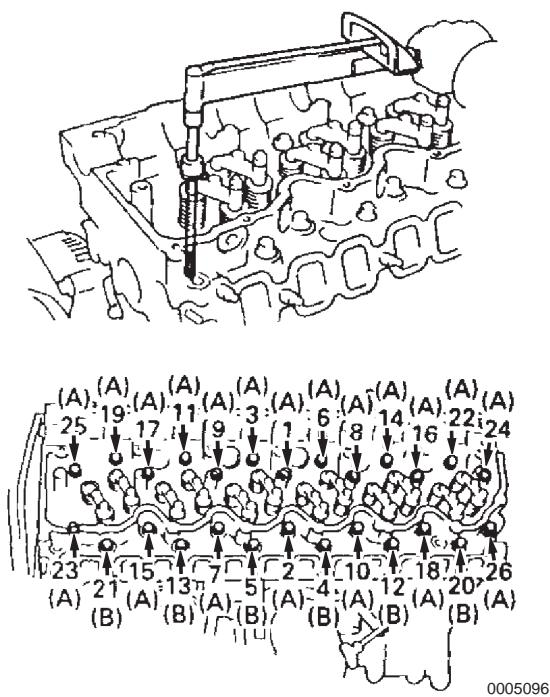

Figure 5-67
13. Tighten the 26 cylinder head bolts in uniform steps in the sequence shown in **Figure 5-67**. Torque the bolts to 700 kgf-cm, 68.65 N·m (50.6 lb-ft).